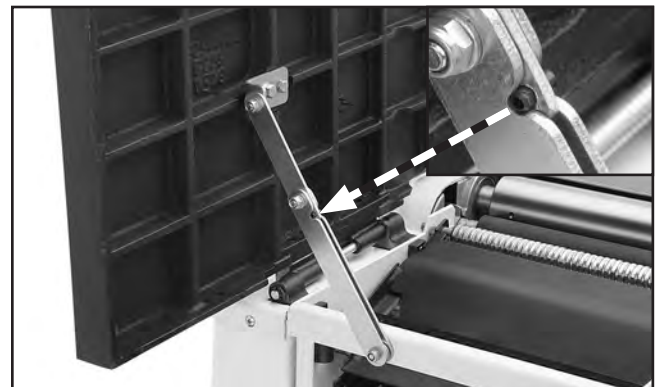

Figure 26. Outfeed table lock arm.
4. Disengage the outfeed table lock lever, and raise the table up all the way so the pin seats into the groove on the lock arm (**Figure 26**).
2. While holding the outfeed table up, push the lock arm pin out to fold the lock arm in and lower the outfeed table most of the way (**Figure 26**). When the table is close to the frame, raise the outfeed table lock lever, lower the table the rest of the way, then push the lever down to secure the outfeed table.